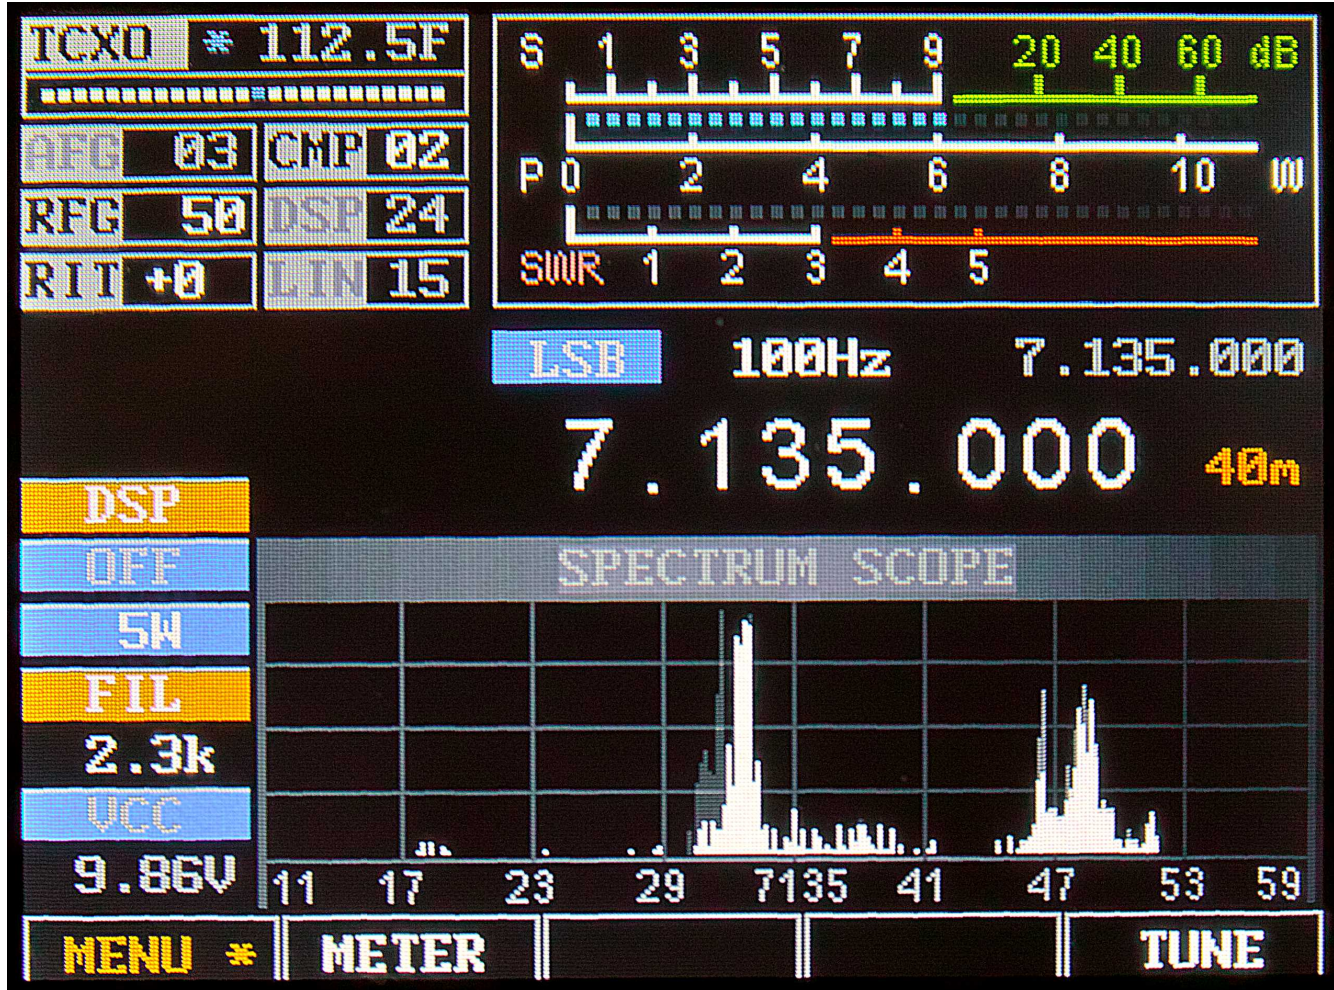

Figure 2: Main display of the mcHF transceiver.
- **Band Display:** To the right of the main display is an indicator of the amateur band in which the current frequency is tuned. If the current frequency is outside an amateur band it will display “Gen” (e.g. “General Coverage”). In **Figures 2 and 3** the band is set to 40 meters.
- **Mode Indicator:** Above the “10's” digit of the main frequency display is the current mode displayed on a blue background. In **Figures 2 and 3** the mode is set to LSB.
- **Step Size Indicator:** Above the center of the main frequency display, between the Mode Indicator and the “Sub” Frequency display is the setting of the current step size. In **Figures 2 and 3** the step size is set to 1 kHz. Optionally, a “marker” may be activated that puts a line under the digit indicating the currently-selected step size (*see the menu item “Step Size Marker”*).
- **TCXO Mode/Display:** In the top-left corner the “TCXO” box indicates whether the TCXO (Temperature-Compensated Xtal Oscillator) is active or not. The TCXO is used to read the temperature of the Si570 synthesizer (U8 on the RF board) - which should be thermally-bonded to the temperature sensor, U10, with a piece of copper or aluminium - and apply a compensation to it to keep on frequency. When it is active the bar graph below the temperature display will display white dots with a blue marker that moves about but when set to “Off”, the bar graph will be grayed out. If set to “Stop” the temperature display will be replaced with “STOPPED”. In **Figures 2 and 3** the TCXO is set to ON and displaying a temperature of 112.5F, but this may be set to display the temperature in Centigrade. If the temperature is very low (*below 0C or 32F*) this will display dashes and the temperature compensation will be disabled until the temperature-coupled synthesizer/sensor exceed this minimum threshold.
- **S-Meter:** This S-meter is nominally calibrated so that S-9 equals 50 microvolts into a 50 ohm load with each S-unit representing 6 dB. Practically speaking, the usable range of the S-meter ranges from about S-3 to something a bit higher than “40 over” which, if you were “run the numbers” about matches the dynamic range of the receiver! The bottom half of the S-Meter's graticule (“S0-S9”) is normally white in color, but if the receiver's A/D converter experiences an overload condition, it will turn red. On bands with strong signals it is normal for this to momentarily flash red as the internal gain control adjusts itself. In **Figures 2 and 3** the S-meter is displaying a signal level of S-9.
- **VCC:** Below this is a voltmeter that indicates the current supply voltage. Below 9.50 volts, the digits are displayed in red indicating that the voltage may be too low for the transceiver to operate properly. *Note that below 10.5 volts, attempting to obtain more than 3-5 watts of “clean”, distortion-free RF output from the transceiver may not be possible, particularly on the higher bands!* In **Figures 2 and 3** the voltmeter is indicating 9.86 volts.
- **FIL:** Below this is the current filter bandwidth setting, selectable by using button **G4**. In **Figures 2 and 3** the bandwidth is shown being set to 2.3 kHz.
- **Power Output Setting:** Just above the **FIL** icon is the currently-selected output power setting, selectable using button **G3**. In **Figures 2 and 3** the power is shown being set to 5 watts.